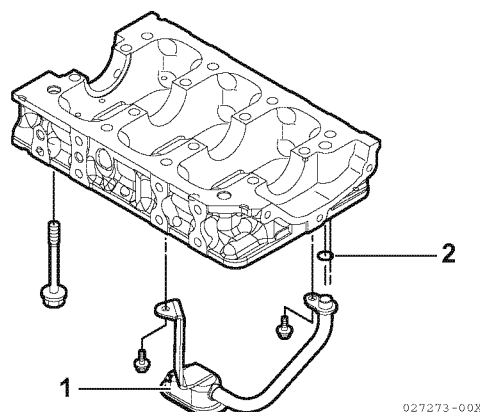

Figure 6-100
1. Install the oil pickup tube (**Figure 6-100, (1)**) and a new O-ring (**Figure 6-100, (2)**).